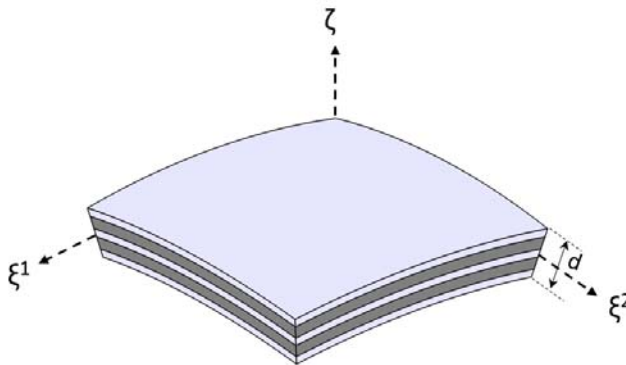

Figure 3-3: 3D representation of a composite laminate showing the total laminate thickness and the laminate coordinate system.
- **Laminate coordinate system:** These are the global directions for a composite laminate about which the stacking sequence is interpreted as shown in Figure 3-3.